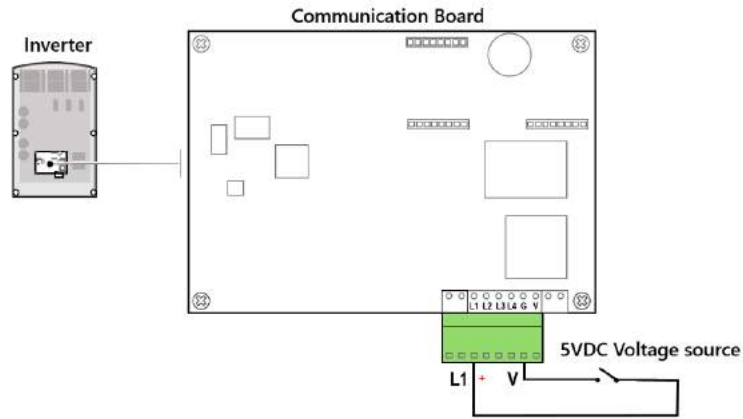

Figure 4 Alternative Power Source mode self-test - using the generator as voltage source
3. Use the V terminal as the voltage source to connect it to the ATS. The ATS output should be connected to L1 (See Figure 4).
3. Connect twisted pair wires to the **L1** and **G** terminals of the Communication Board (See Figure 4).